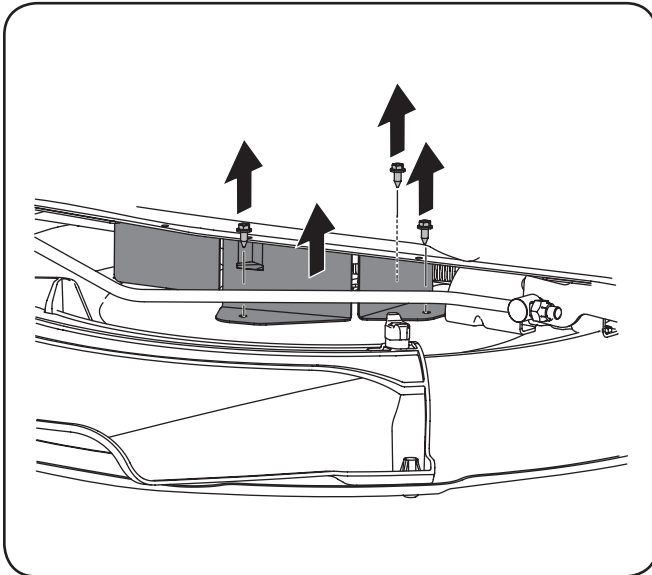

Figure 7-5
5. Remove the deck belt cover by removing the three hex bolts that secure it. See Fig. 7-5.